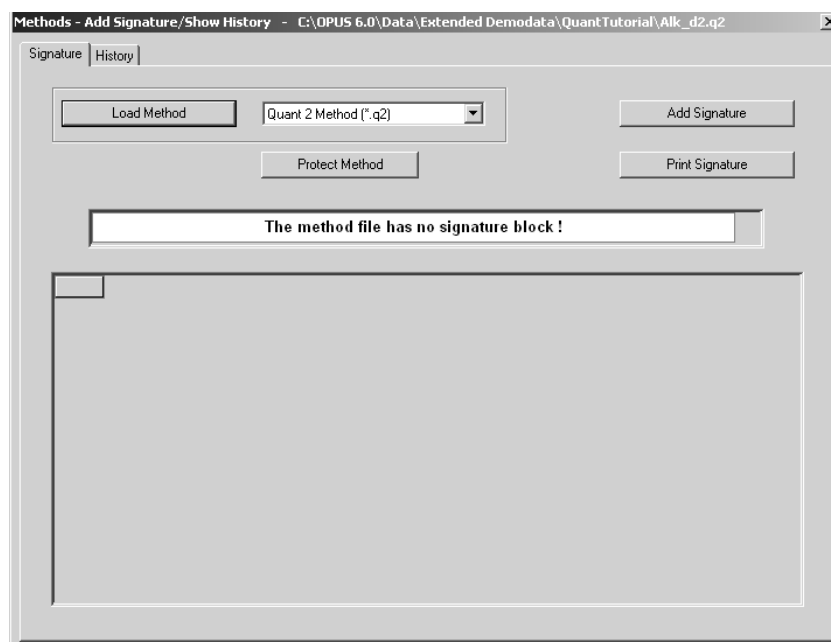

Figure 108: Methods- Add Signature/Show History Dialog Box
- 4) To protect a method select in the OPUS *Validation* menu the *Methods - Add Signature/Show History* function. The dialog box shown in figure 108 opens. Select the corresponding method type *Quant 2 Method (*.q2)* or *Identity Test Method (*.faa)* and load the method file from the appropriate directory (e.g. USER_B_00_00_AD_07_AB_11) by clicking on the *Load Method* button.
- 6) Click on the *Set* button to exit the *Prepare Method Protection* dialog box and to return to the *Methods - Add Signature/Show History* dialog box (figure 108). Now the MAC ID, you have entered, is displayed to the right of the *Protect Method* button.